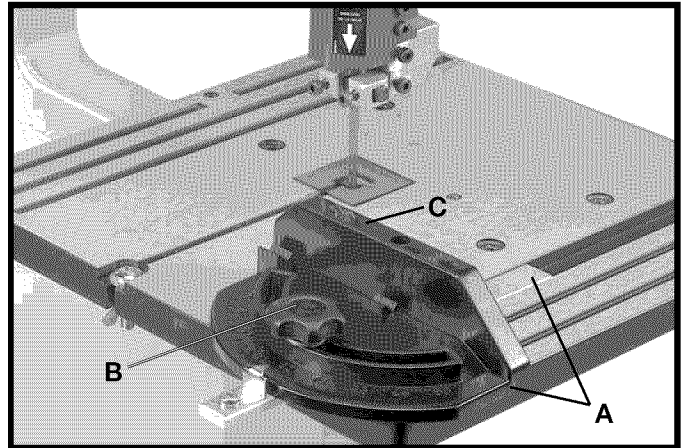

Fig. 38
A miter gage (A) Fig. 38, is supplied with your band saw. The miter gage body (C) can be adjusted up to 45 degrees right and left, by loosening lock knob (B), rotating miter gage body (C) to the desired angle, and tightening lock knob (B).